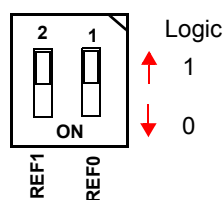

FIGURE 1. TYPICAL U2 DEFAULT SETTING 11 (1.500V)
- Set the “REF Selection” DIP switch (U2) to 11 corresponding to DAC = REF = 1.5V. Figure 1 details the typical default configuration for U2 when the board is shipped. In this default setting, the evaluation board is set for a reference voltage of 1.5V.